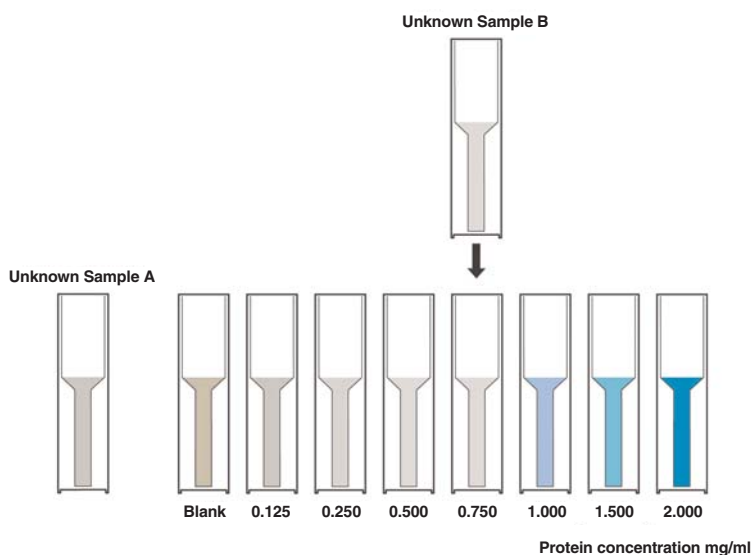

Fig. 6. A qualitative view of a Bradford standard curve
6. Visually compare the color of your unknown samples against the standards of known concentrations. A representative set of standards and a typical color spectrum are shown in Figure 6. Using the palette of standards, try to qualitatively determine to which known standard your unknown sample corresponds.